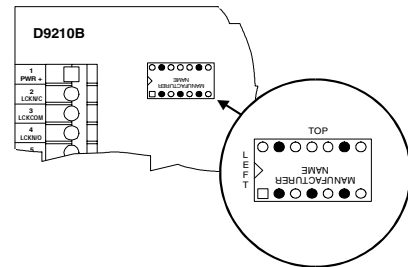

Figure 3: Relay Installation
1. Locate the relay socket on the D9210B board (shown in Figure 3).
2. Place the relay into the socket. The plug-in relay has two legs on the bottom and three legs on the top. When inserting the relay, ensure that it is oriented as shown in Figure 3.